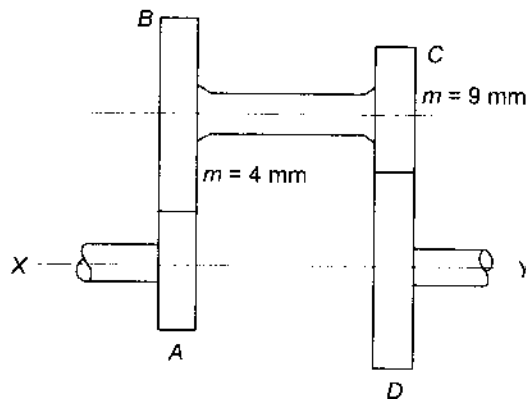

Fig.12.37
- 16 Two shafts X and Y are in the same line (axes in one line). They are geared together through an intermediate parallel shaft carrying wheels B and C which mesh with the wheels A and D respectively, as shown in Fig.12.37. Wheels A and B have a module of 4 mm and the wheels C and D have a module of 9 mm. The number of teeth on any wheel is not to be less than 15 and the speed of D is to be about, but not greater than $1/12$ th the speed of A and the ratio of each reduction is the same. Find (a) suitable number of teeth for the wheels, (b) the actual reduction and (c) the distance of the intermediate shaft from the axes of the shafts X and Y (centre distance).